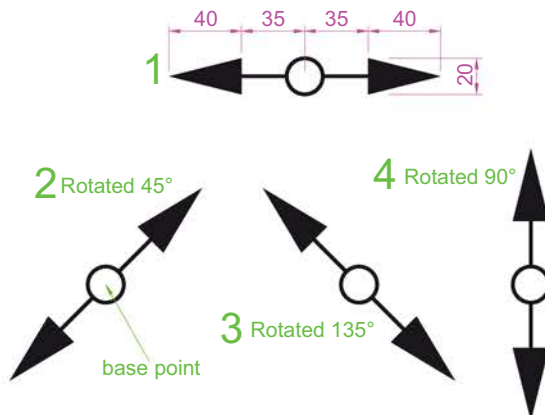

Fig. 6.24 Examples – Rotate
EXAMPLE – ROTATE (FIG. 6.24)
1. Construct drawing 1 of Fig. 6.24 with **Polyline**. Copy drawing 1 three times (Fig. 6.24).
3. Repeat for drawings 3 and 4 rotating as shown in Fig. 6.24.